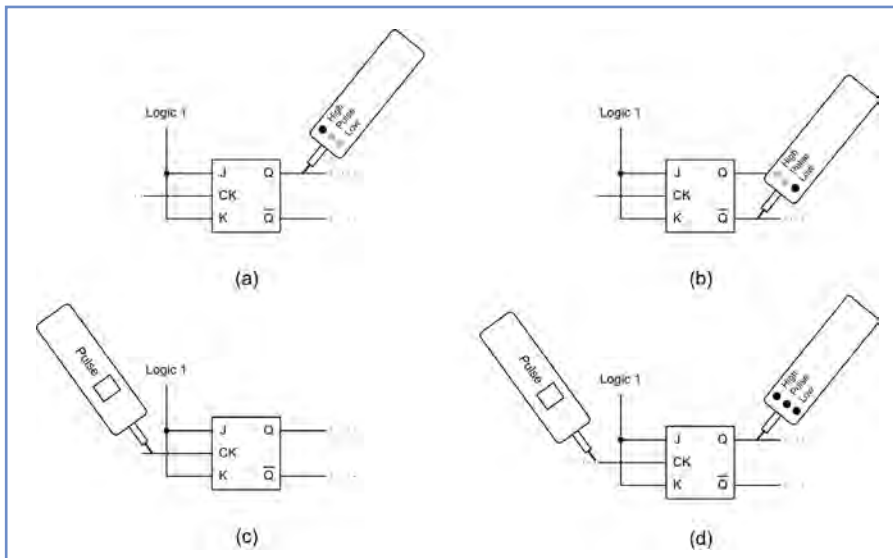

Fig.8.10. A simple logic pulser suitable for home construction
Fig.8.10 shows an example of the combined use of a logic pulser and a logic probe for testing a simple J-K bistable. The logic probe is used to check the initial state of the Q and Q outputs of the bistable, as shown in Fig.8.10 (a) and (b). Note that the Q and Q outputs should be complementary. Next, the logic pulser is applied to the clock (CK) input of the bistable (see Fig.8.10(c)) and the Q output is checked using the logic probe. The application of a pulse (using the trigger button) should cause the Q output of the bistable to change state (see Fig.8.10 (d)).